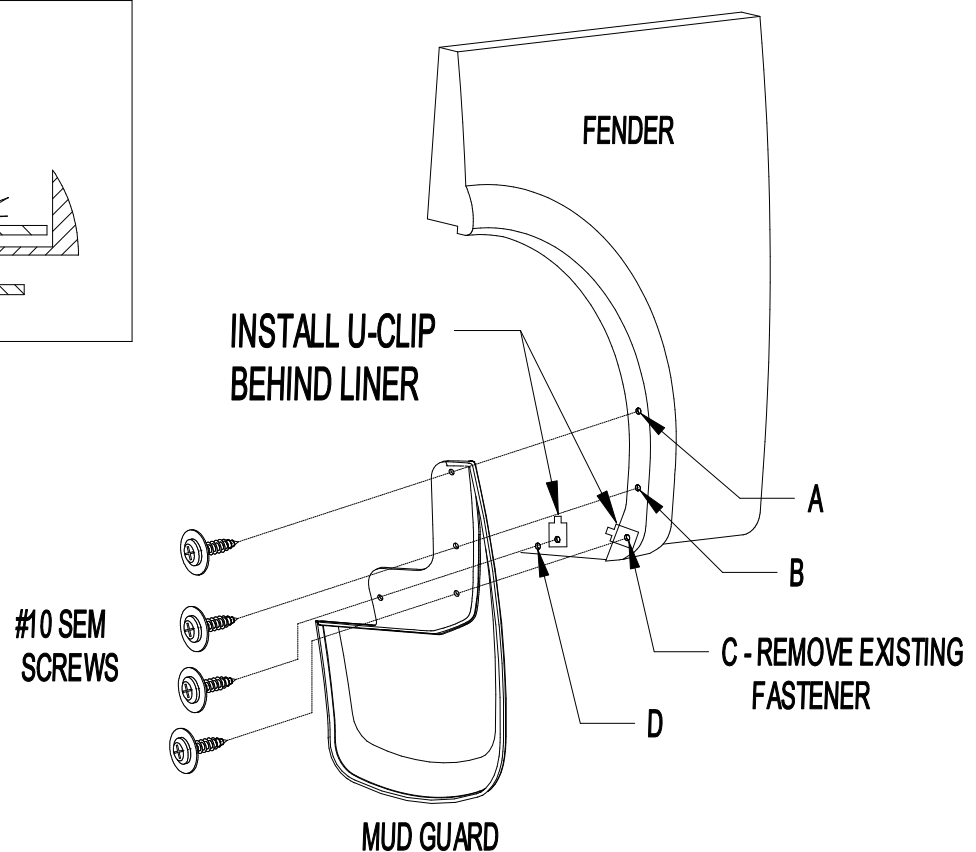

Figure 1
2. Remove existing fastener from location C (Figure 1).
3. Attach mud guard to rear fender with a #10 SEM screw thru mud guard, fender, fender liner and into a U-clip on the backside of the fender liner (Figures 1 & 2). Check fit and level before tightening.
5. Install #10 SEM screws at locations A and B (Figure 1).